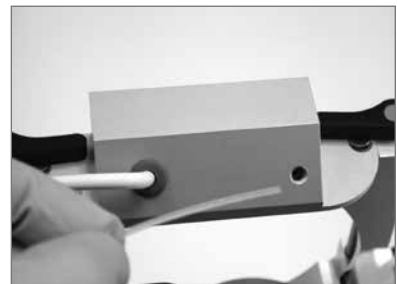

Figure 18A: Measuring the distance between the sheath gas tee and the sheath gas port
2. Take the sheath gas tubing and measure the distance between the sheath gas tee and the sheath gas inlet on the electronics housing assembly (Figure 18A)